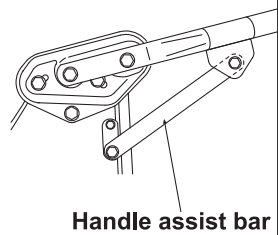

Fig. 3.
- 3 Remove the housing bolts and loosely fix the bar temporarily. (See Fig. 3.)